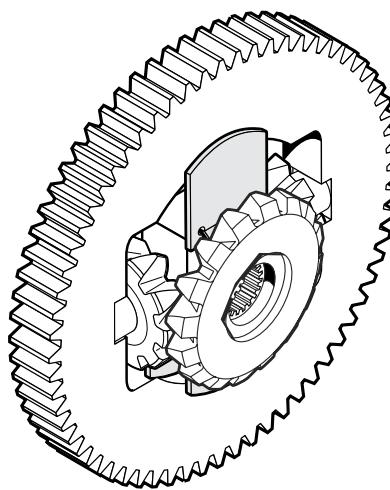

Fig. 40, Differential Gear Assembly
4. Install the Differential Gear Assembly to the Left and Right Axle Shafts. (*Fig. 40, 41*)